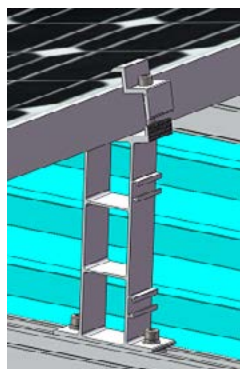
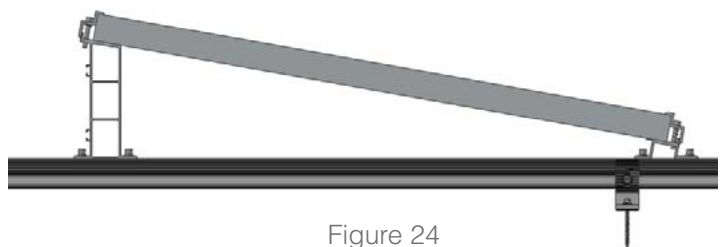

Figure 23
Figure 24
5.5.2 Fix the clamp on the Rear Leg shown in Figure 23 and fasten the clamps of Front and Rear legs till the PV Modules are properly installed in Figure 24.